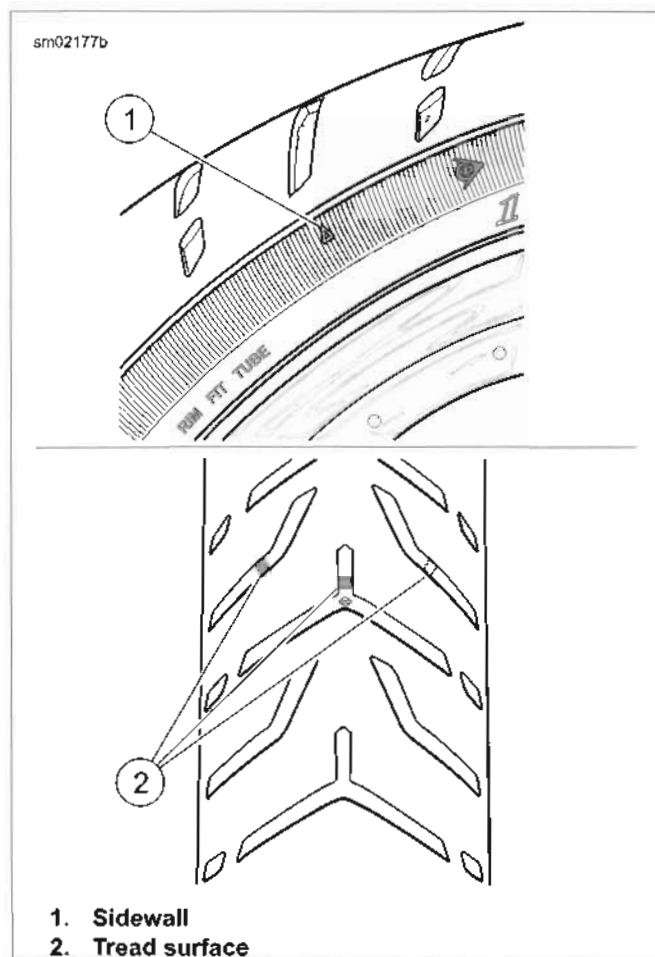

Figure 2-30. Tread Wear Indicators (Typical)
- See Figure 2-30. The tread wear indicator bars will appear on tire tread surfaces when 1/32 in (0.8 mm) or less of tread remains. Always replace tires before they reach the tread wear indicator bars.